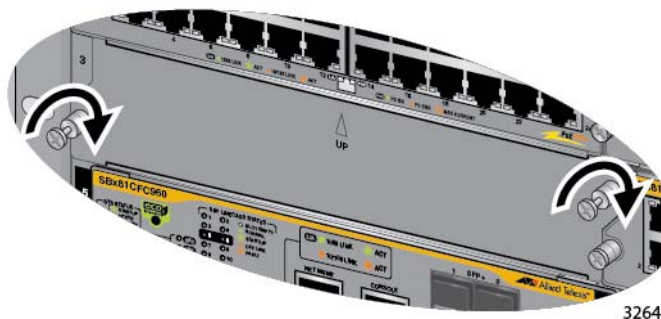

Figure 94. Tightening the Thumbscrews on a Blank Slot Cover
2. Finger tighten the two thumbscrews to attach the blank panel to the chassis, as shown in Figure 94.